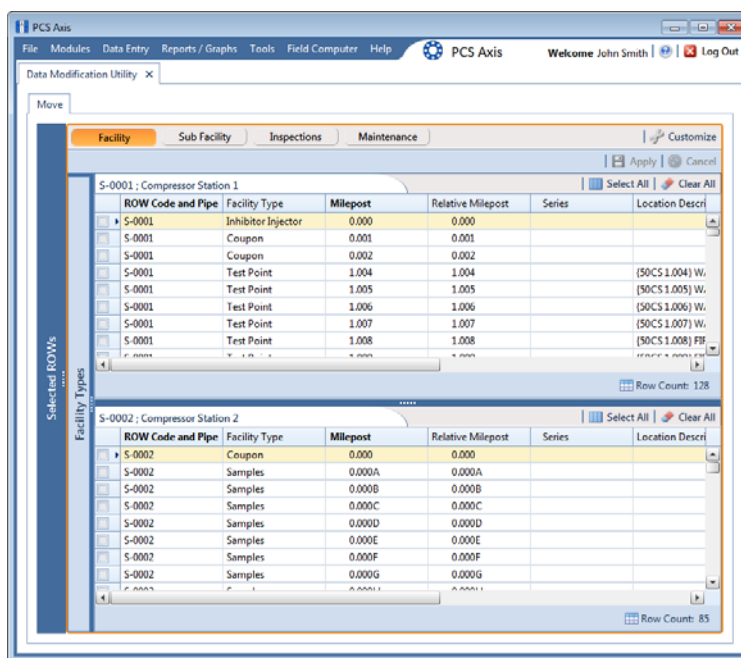

Figure 18-9. Facility Move Panels
- 5 Click the *Select ROWs* and *Facility Types* bars to close these panels (Figure 18-9).